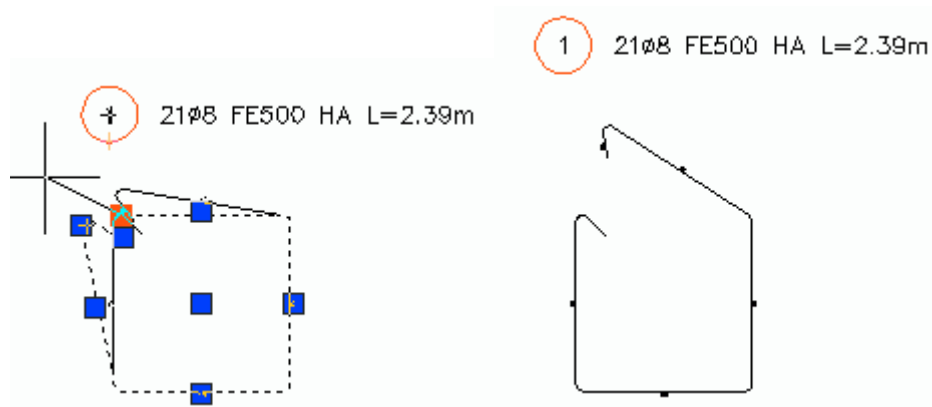

Figure 399: Stretching the bar bending detail
2. Click a grip point of the bar bending detail and extend it as shown in Figure 399.